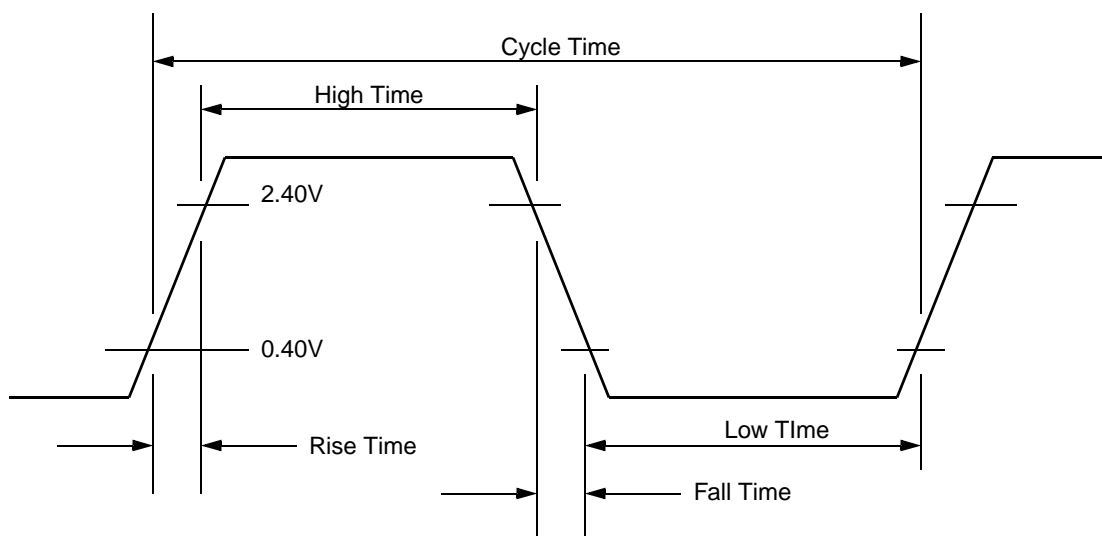
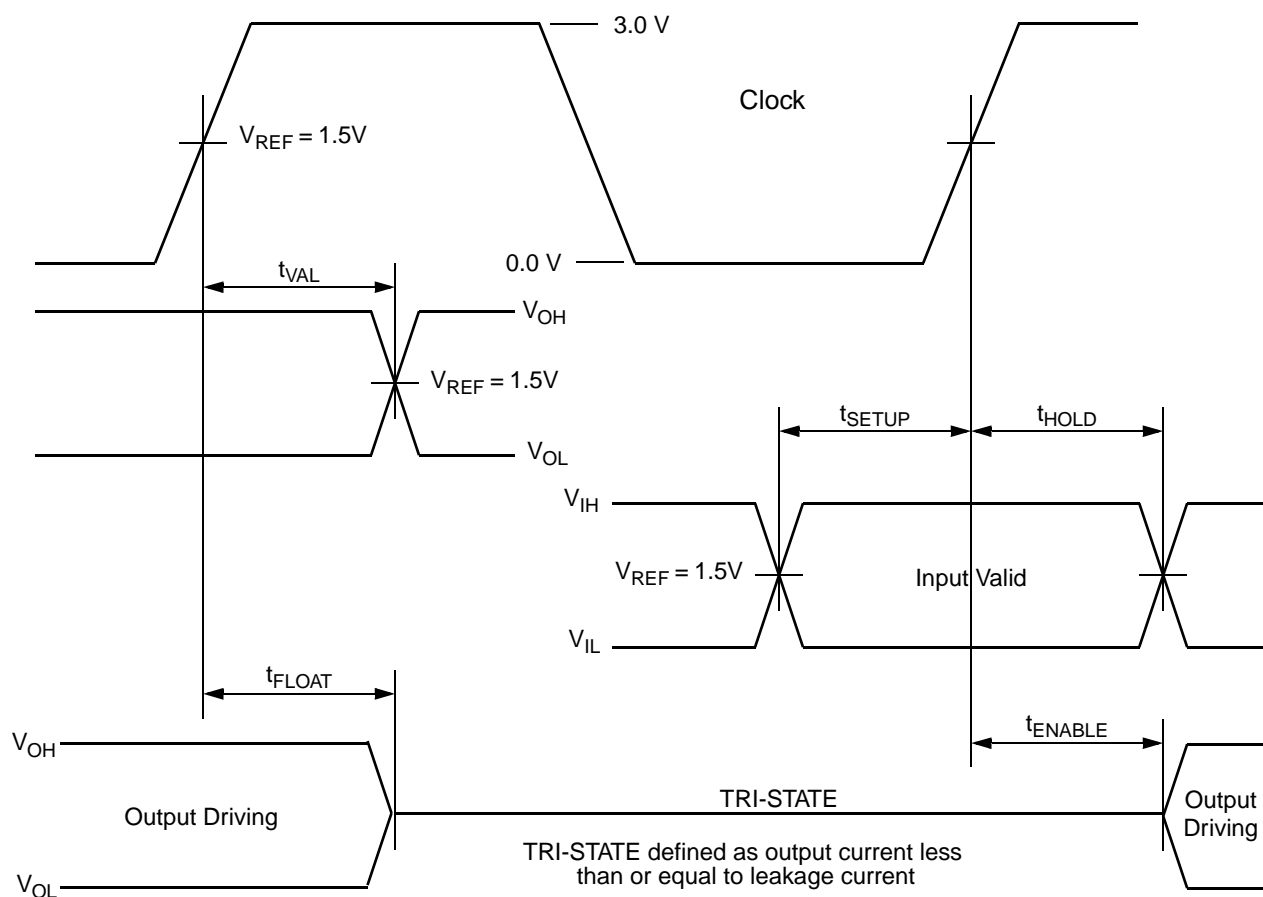

Figure 6-1. Clock Reference Definition
Figure 6-2. AC Reference Timing and Test Definition
| Input Timing | Input Rise and Fall Times (unless otherwise indicated) See Figure 6-1 "Clock Reference Definition" on page 530 for rise and fall definition. | 0.5 | | 5 | ns |
Figure 6-1 and Figure 6-2 provide reference definitions used in this section.
Note 1. Signal parameters are defined in Figure 6-1 "Clock Reference Definition" on page 530.
- Signal and test parameters are defined in Figure 6-2 "AC Reference Timing and Test Definition" on page 530.